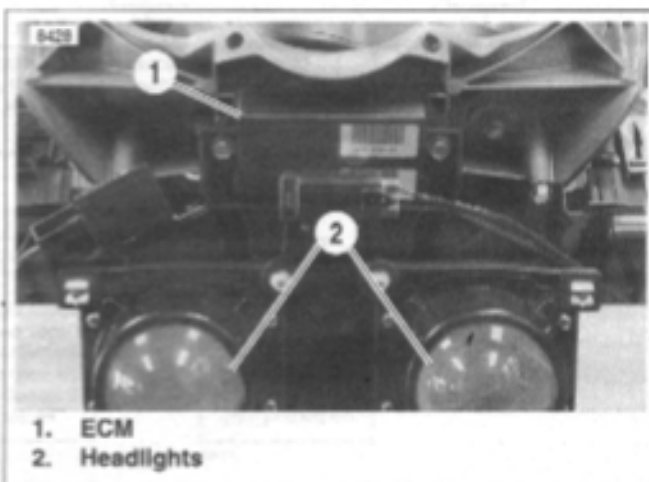

Figure 4-17. Electronic Control Module
1. See Figure 4-17. If the lamp goes off when the black ECM connector [10] is unplugged, the BK/Y wire is not shorted to ground.